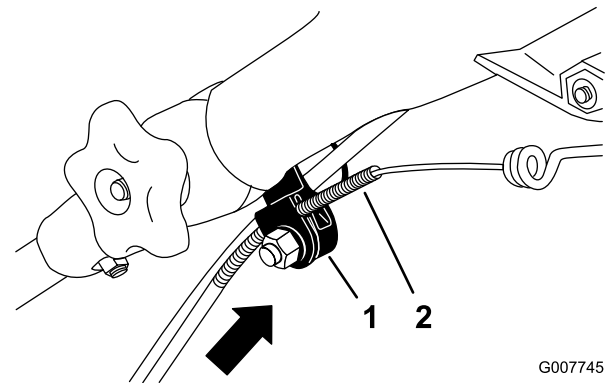

Figure 45
**Note:** You can place a ruler against the upper side of the black cable mount and measure how far the upper end of the cable jacket moves (Figure 45).